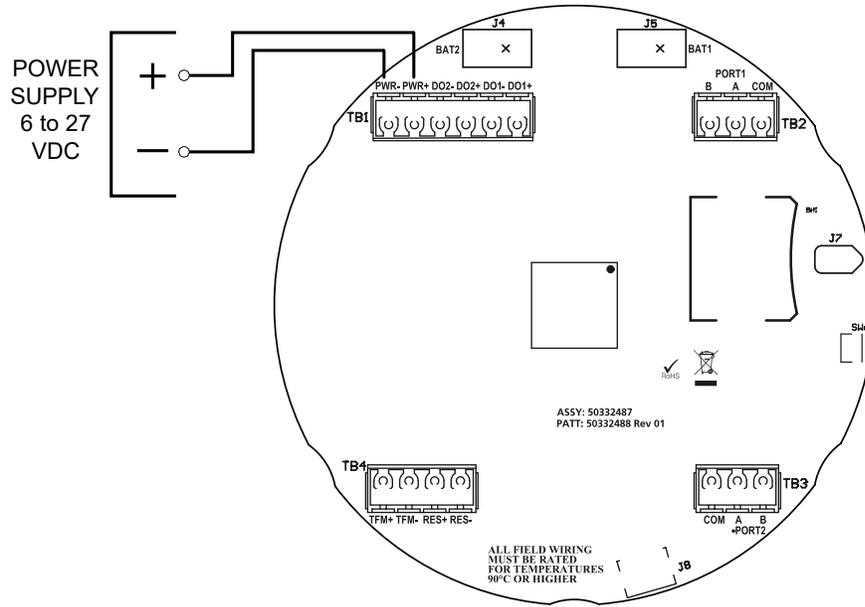

Figure 2.7—External power supply wiring
5. Connect wiring for external power, if appropriate. See Figure 2.7, page 41.
The MC Synergy EXP can be connected to a remote power supply by a two-conductor cable (Figure 2.7, page 41). The power supply and cable must be capable of supplying 6 to 27 VDC @ 60 mA.